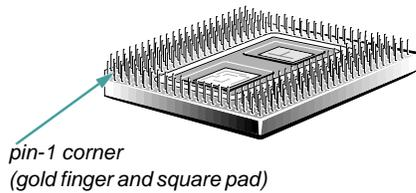

Figure 7-10. Pin-1 Identification
7. Align the pin-1 corner of the microprocessor chip (Figure 7-10) with the pin-1 corner of the microprocessor socket.